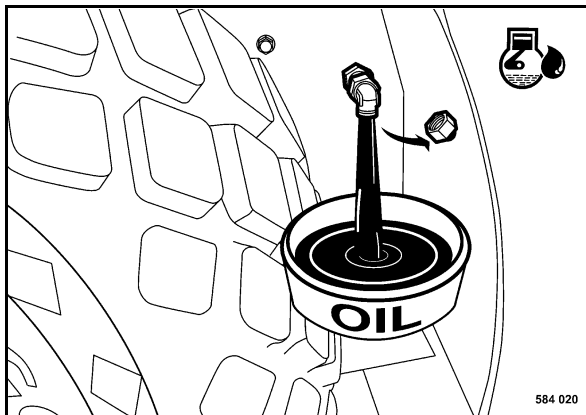

Fig. 137
- Unscrew the drain plug (Fig. 137) and catch running out oil.